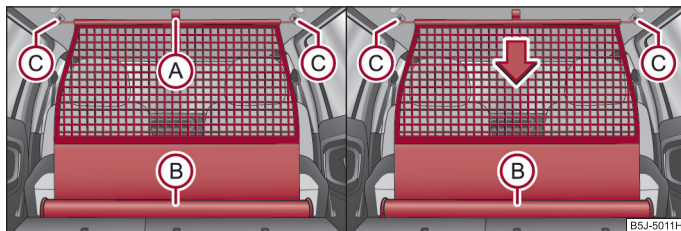

Fig. 66 Pull out the net partition / roll up
- Pull the net partition net at the plate (A) out of the housing (B) ⇒ fig. 66.
- First of all insert the cross rod into the mount (C) on one side.
- Pull the cross rod back slightly, first on the one side then on the other side and take the cross rod out of the mounts (C) ⇒ fig. 66.
- **Hold** the cross rod in such a way that the net partition can roll up slowly and without damage into housing (B).